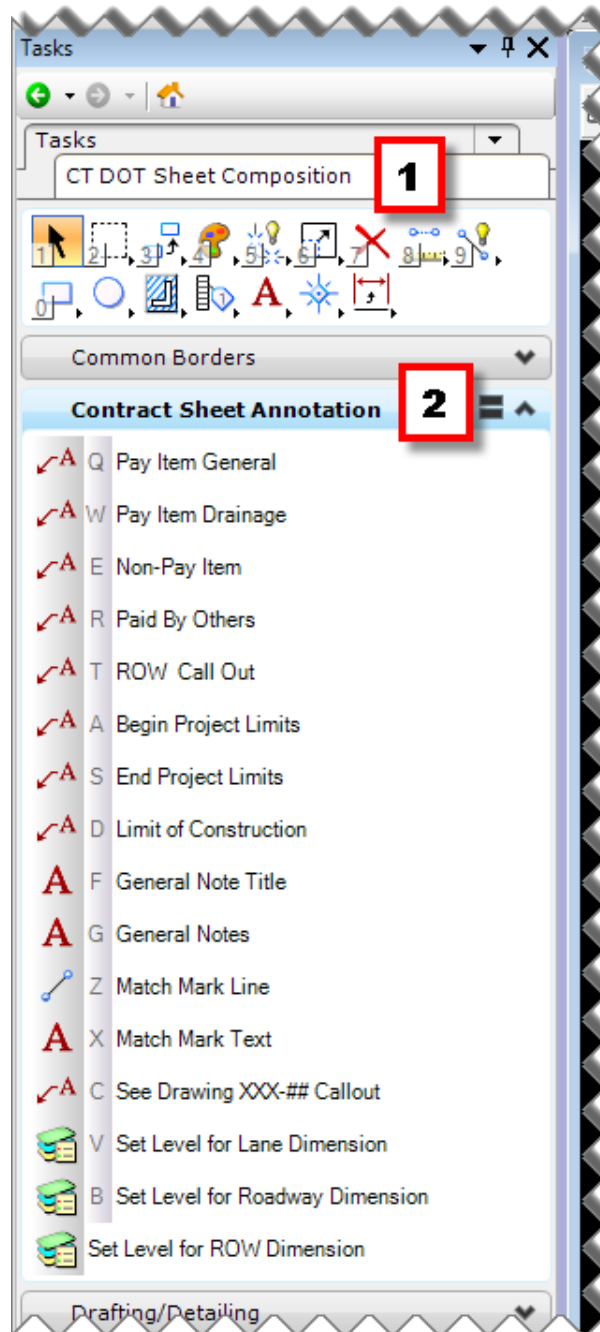

Figure 66 - Contact Sheet annotation Task Group
2. Click on the Contract Sheet Annotation task group (Figure 66).